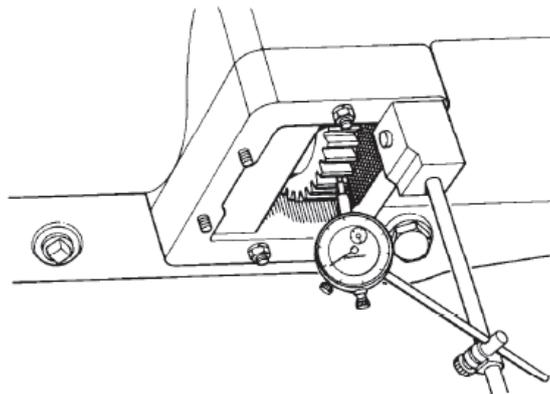

Figure 6 Checking PTO Adapter-to-transmission Backlash
- c. Install a dial indicator onto the adapter housing with the dial indicator plunger resting squarely on the adapter gear (Figure 6).